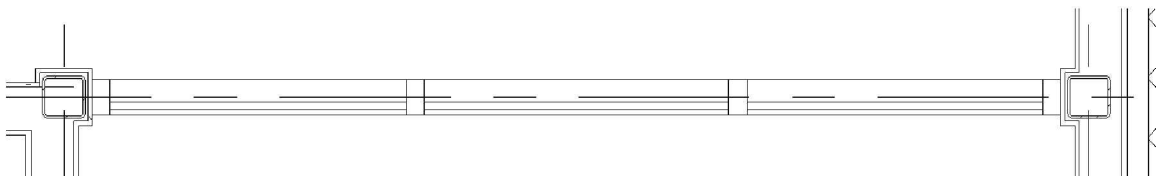

FIGURE 11-4.6 Interior curtain wall placed
28. Drag the blue dot West to the column furring (Figure 11-4.6).